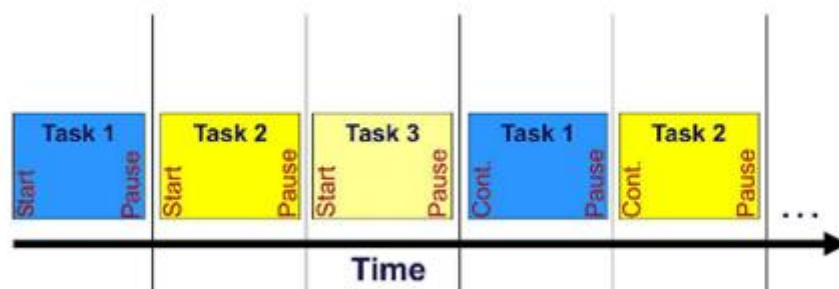

Figure 11 Round-robin time-sliced scheduler (Figure from [6])
- (2) *Preemptive round-robin* scheduler. Each task has an amount of time to execute before being interrupted by the kernel. The time slice can be the same for every thread or individualised. (Figure 11)